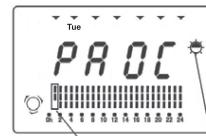

Fig. 14
- Operation in Comfort-1 mode on Tuesday from 0:00 to 01:00 hours in the morning (fig.14)